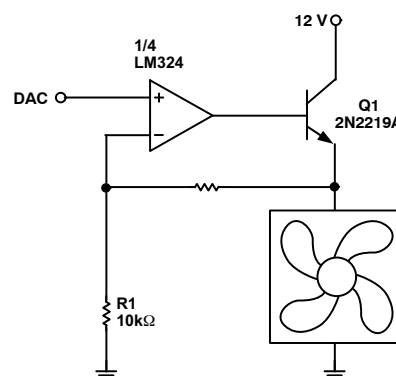

Figure 35. Fan Drive Circuit with Op Amp and Emitter-follower
Suitable fan drive circuits are shown in Figure 35 through Figure 39. When using any of these circuits, note the following:
- All of these circuits provide an output range from 0 V to almost  $+12 \text{ V}$ , apart from Figure 35, which loses the base-emitter voltage drop of Q1 due to the emitter-follower configuration.